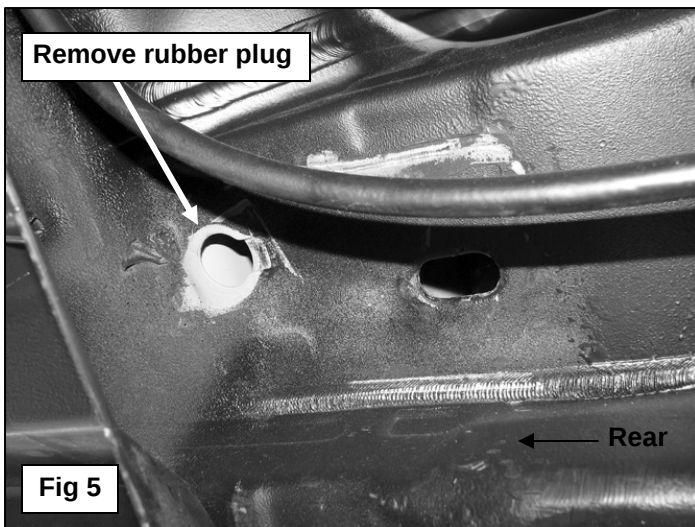

Fig 5
5. Locate the round and oval holes in the floor panel pictured in **Figure 5**. Remove the rubber plug from the round hole. Insert (1) 10mm Bolt Plate into the round opening. Insert (1) 10mm T-Bolt Plate into the oval opening, **(Figure 6)**. **IMPORTANT:** Rotate Bolt Plate 90-degrees to the direction of the oval opening, **(Figure 6)**.